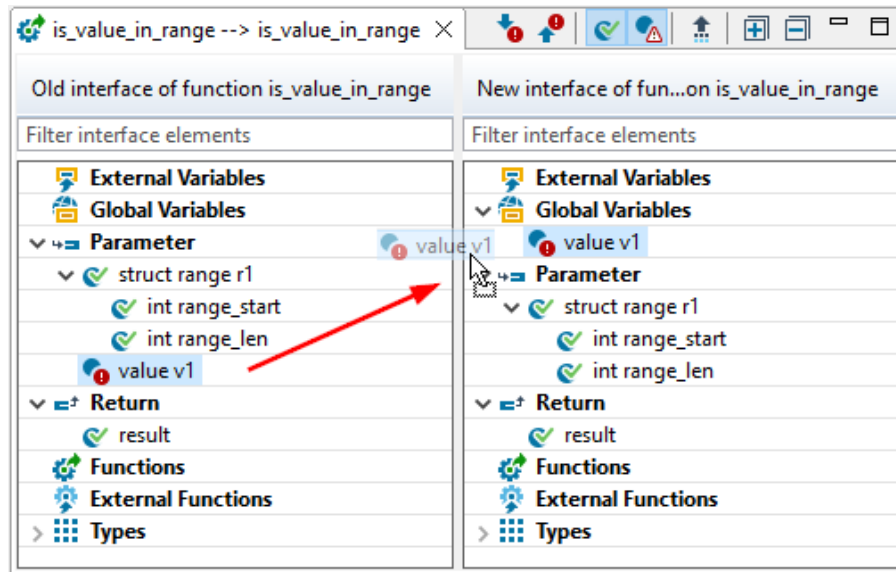

Figure 5.52: Use drag and drop in IDA
- Assign the interface object “value v1” either by using the context menu or just drag and drop from the left side (see figure 5.52).